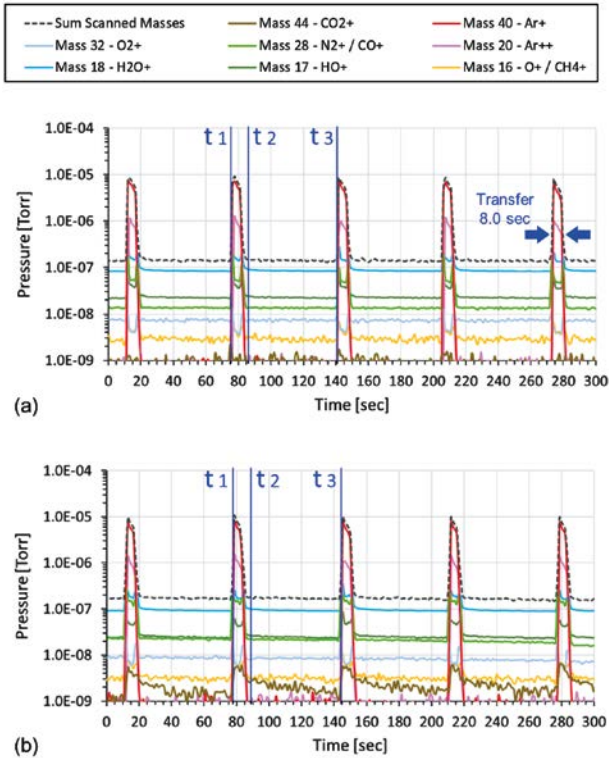

Figure 6: Selected masses measured in the VTM of the HEXAGON system, comparison of SiO2 wafers (a) vs. PBO wafers (b).
Figure 6 (a) and (b) displays the RGA spectra measured in the VTM of the HEXAGON during the process of SiO2 and PBO wafers. The partial pressures of 4 known contaminants are compared in Table III. Masses 16 and 17 are omitted from the table as the former normally shows a marginal partial pressure and the second follows closely the trend of mass 18. Each of the pressure peaks, indicate that a transfer cycle takes place. At the instant t1 the pedestals move down to allow the rotation of the carousel. This event corresponds to a sharp increase of the VTM pressure. The contributors to this increase are: (1) the residual airlock atmosphere, (2) the residual Ar process gas, and (3) the volatile byproducts generated during the etching process. During transfer, at t > t1, the VTM pressure is mainly dominated by masses 40 and 20. In the case of PBO wafers, masses 28 and 40 are significantly more prominent than on SiO2 wafers. This reflects the presence of byproducts generated during etching of this organic film. After transfer, the chambers are again isolated from the VTM environment. The pressure promptly recovers and stabilizes within seconds. At the instant t2 the Argon species practically disappear from the spectrum and the difference between the wafer types can be seen mainly by the higher partial pressure of masses 28 and 44. In both cases, at t3 the main contributors to the VTM pressure are masses 18 and 17.
Partial Pressures of Contaminants (Data of Fig. 6)